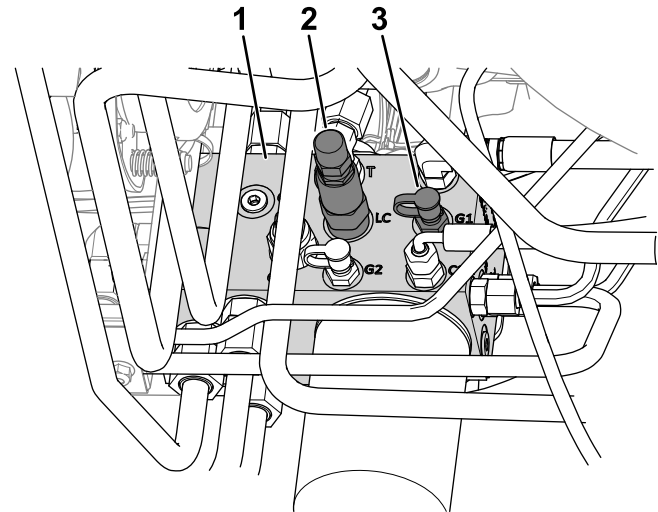

Figure 23
- Connect a pressure gauge to the test port (labeled G1; refer to Figure 23).
- Weight-transfer spool (LC)
- At the side of the lift manifold, remove the cap from the test port (labeled G1; refer to Figure 23).
- Loosen the jam nut at the end of the weight-transfer spool (labeled LC; refer to Figure 23).